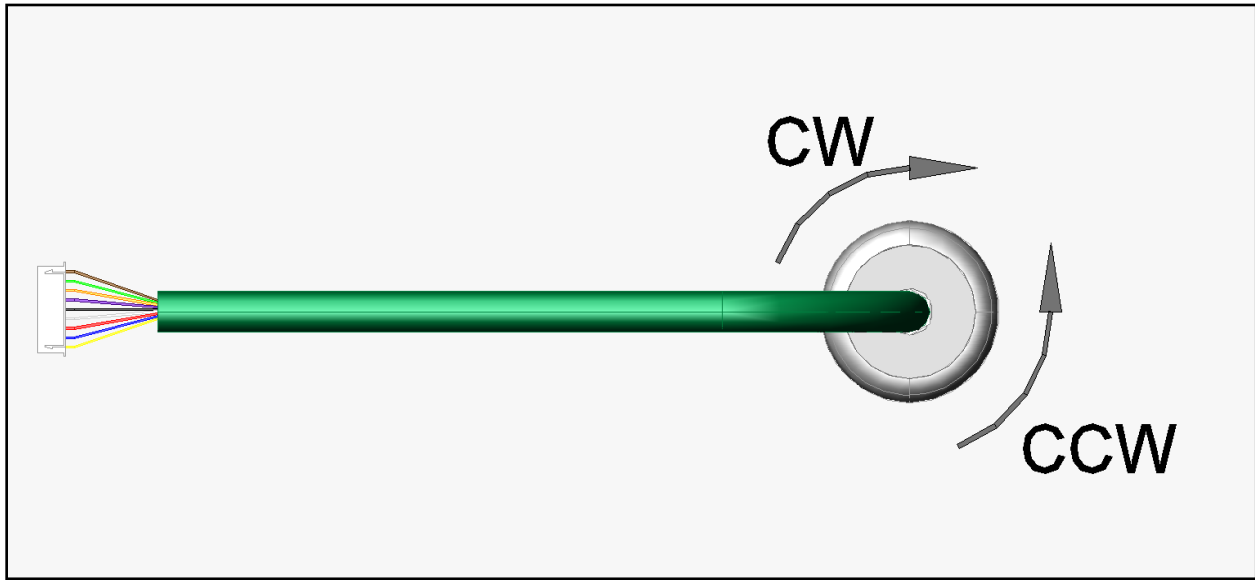

FIGURE 11 - MOTOR ROTATION DIRECTION CONVENTION
The *module* uses a Clock-Wise (CW) and Counter Clock-Wise (CCW) motor rotation definition. The reference for this distinction is based upon viewing the MDR from the cable exit end of the roller as depicted below in *Figure 11*.